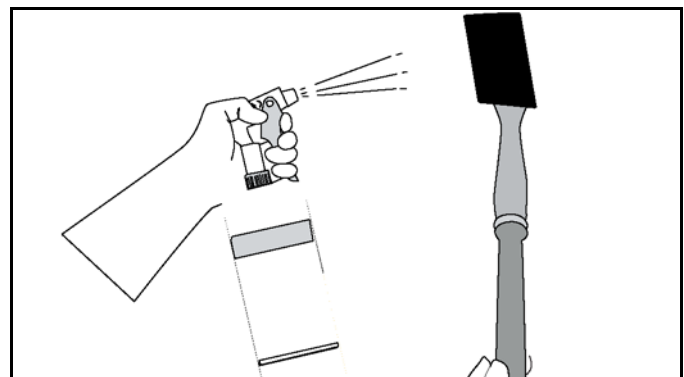

Figure-159
30. Once the platen has raised, put the multi-use tool pad on the flat paddle tool. Spray the multi-use tool pad with grill cleaner. See Figure-159.